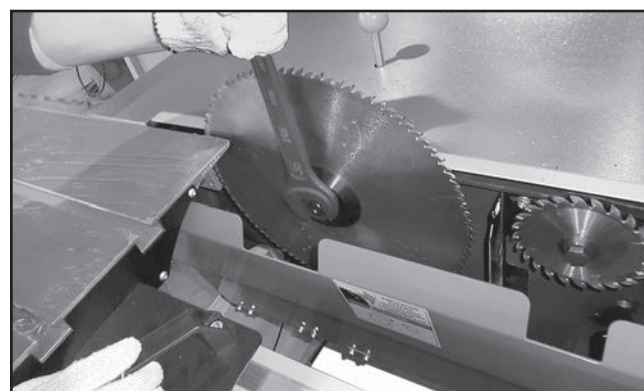

Figure 40. Main blade installed on arbor.
28. Thread arbor nut on counterclockwise and fully tighten it to secure the blade (see **Figure 40**).